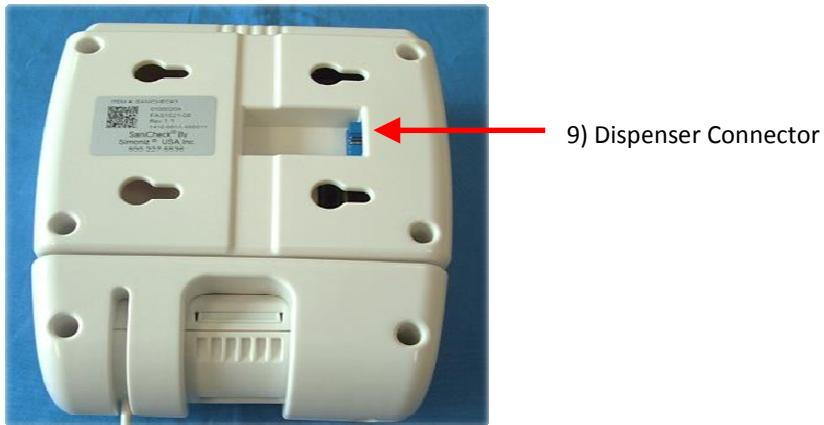

Figure 2. PSS Door Monitor Back View
## **1.2 Component Descriptions - Back View (See Figure. 2)**
The dispenser plugs into this connector of the PSS Door Monitor (See Figure. 2 item 9). The PSS Door Monitor is attached to a dispenser via an interface connector and counts all patient room entries and exits with dispense (compliant event), without dispense (non-compliant event) and total room entries and exits.